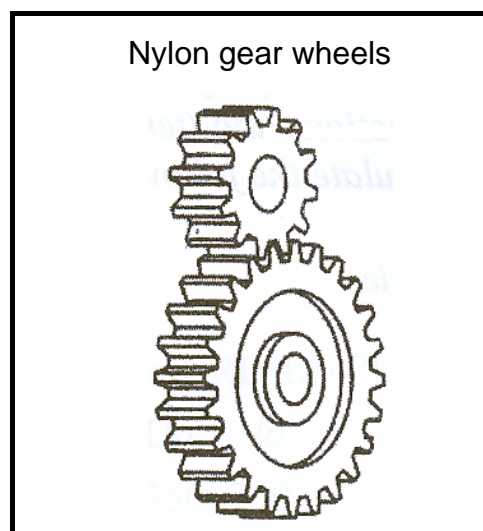

FIGURE 4.5
- 4.5 Solid nylon is widely used for engineering purposes. FIGURE 4.5 shows gear wheels made from solid nylon.